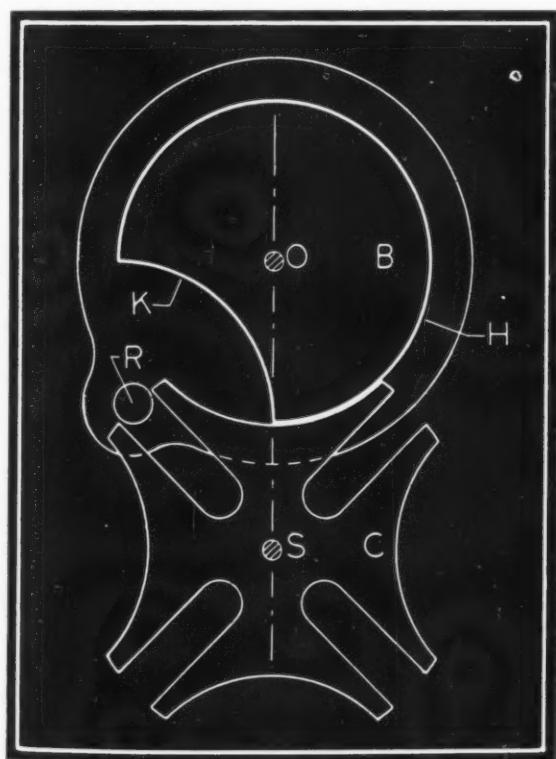

Fig. 1—Elements of the geneva stop mechanism. Angle of rotation of driving member *B* is measured from this position
**B**ECAUSE of its simplicity the geneva mechanism, Fig. 1, is popular for intermittent drives as well as for counting or stop mechanisms. Any number of slots from four up to fairly large numbers can be used, particularly if the slots and the locking surfaces are placed on separate disks. The number of turns made by the driver *B* for one turn of the driven
mechanism is somewhat involved, and as an aid to the designer the curves in Fig. 2 are presented. The abscissa represents degrees of angular travel of the driving member *B* measured from its position in Fig. 1 when pin *R* is just entering the slot. Broken-line curves give angular velocity ratio ( $\omega_C/\omega_B$ ) where  $\omega_C$  and  $\omega_B$  denote the angular velocities of the driven and driving members respectively. Full-line curves give angular acceleration ratio ( $\alpha_C/\omega_B^2$ ) where  $\alpha_C$  denotes the angular acceleration of the driven member, radians per second per second,  $\omega_B$  being assumed constant.
All curves are plotted for the first half of the travel of the follower, that is, until the pin *R* (Fig. 1) reaches the center line *OS*. Beyond this phase the values are repeated in reverse order, all acceleration values being negative. For the foregoing example the pin is on the center line at 60 degrees, therefore at 80 degrees the velocity would again be 14.74 radians per second
$r/c = \sin(\pi/N)$ , and  $\theta = \text{angular travel of driving member B measured from its position in Fig. 1 when pin R is just entering the slot.}$
Often it is important to know the maximum instantaneous values of velocity and acceleration of the driven member. For the velocity, inspection of Fig. 1 or substitution in Equation 1 shows that